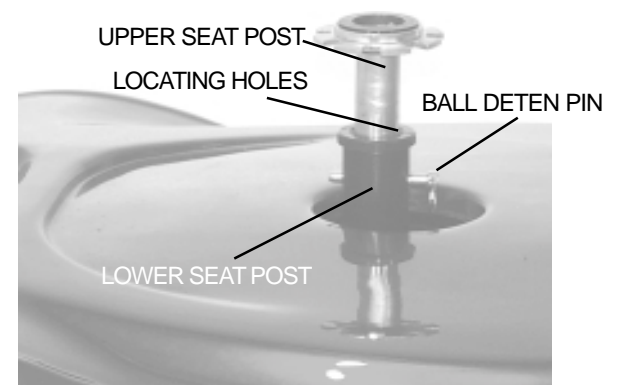

Figure 9. Seat Height Adjustment
The seat can be repositioned to one of three different heights. See figure 9.
12. Carefully lift the seat and slide the seat post (on the bottom of the seat frame) into the seat pedestal. See figure 9.